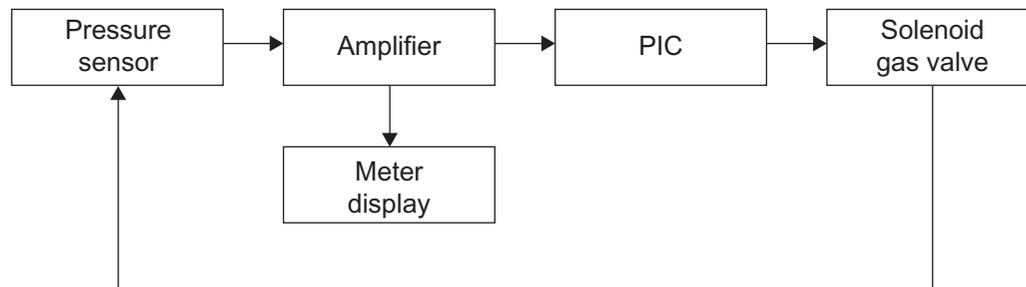

Fig. 1(a)
- (a) (i) State if the system shown in **Fig. 1(a)** could be considered open loop or closed loop and briefly justify your answer. [2]